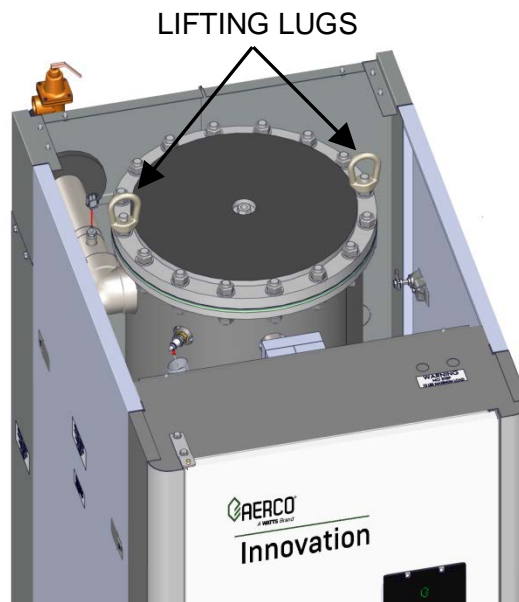

Figure 2-2. Partial Top View Showing Installed Lifting Lugs
The unit must be installed on a **4 to 6 inch (10.2 to 15.2 cm)** housekeeping pad to avoid base corrosion. Two lifting lugs are provided with the unit and are wire-tied to the top of the heat exchanger. The top sheet metal cover of the unit must first be removed and the lifting lugs must be installed as shown in Figure 2-2. **USE THESE TWO LUGS TO LIFT AND MOVE THE UNIT.** Remove the top panel from the unit to provide access to the lifting lugs. Remove the four (4) lag screws securing the unit to the shipping skid. Lift the unit off the shipping skid and position it on the 4 to 6 inch (10.2 to 15.2 cm) housekeeping concrete pad (required) in the desired location.